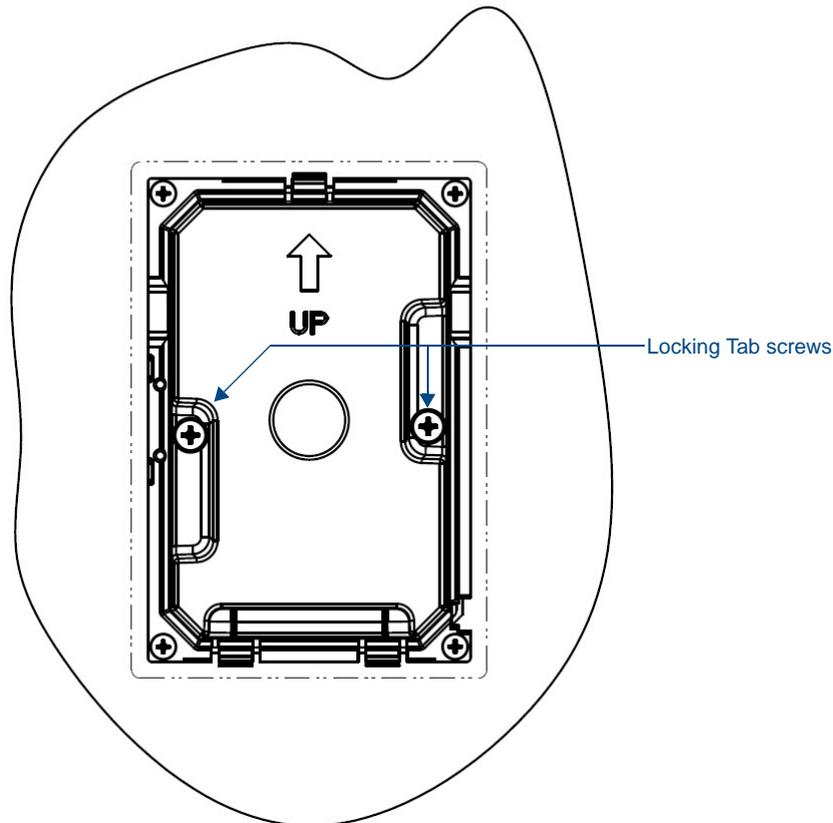

FIG. 45 MXD-430 Backbox installed in wall
- Extend the locking tabs on the sides of the Backbox by tightening the screws inside the box (FIG. 45) until snug.